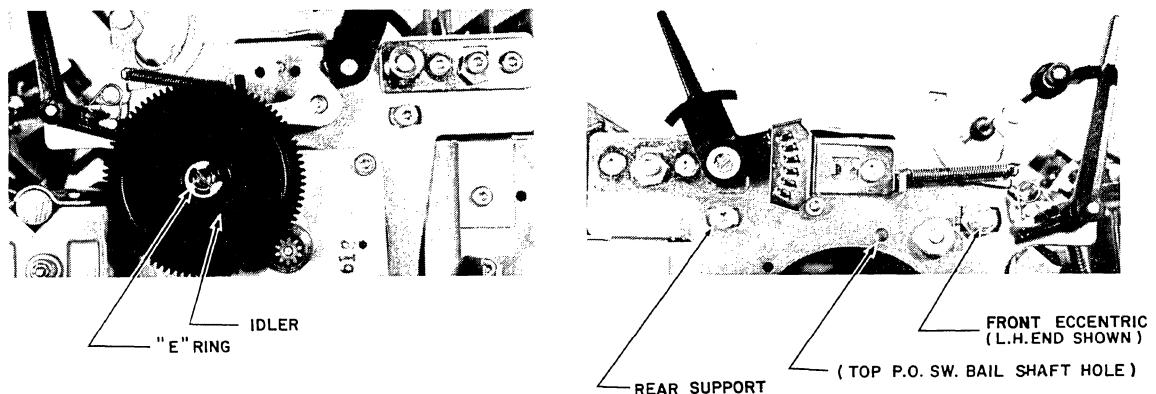

Figure 5-7 CARRIER SYSTEMS REMOVAL - B
models used the end of the assembly support screw). Store the springs, gear and the E ring in a safe place. Refer to Figure 5-7.
5. Remove the left- and right-hand front Carrier Subassembly height adjustment eccentrics using a 1/4" wrench or nut driver. Remove the left- and right-hand Carrier Subassembly support screws and shoulder spacers (earlier models use a shoulder screw), using a TORX T15 screwdriver. Store these items in a safe place. Refer to Figure 5-7.
- c) Referring to Figure 5-7, remove the E ring and idler gear.